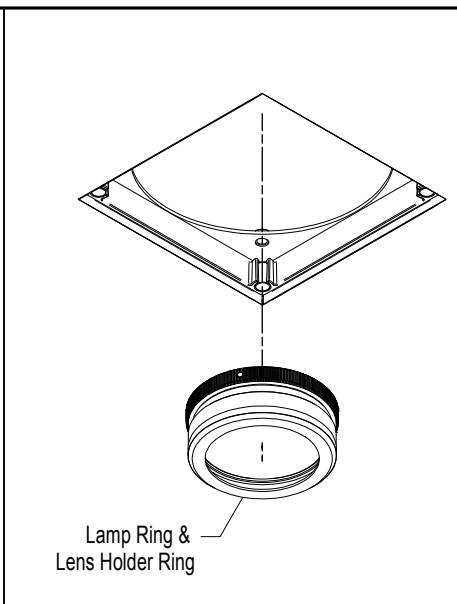

FIG. 2.3 Remove Lens & Lamp Rings
Step 3 Remove Lamp Ring/Lens Holder subassembly - Fig 2.3.